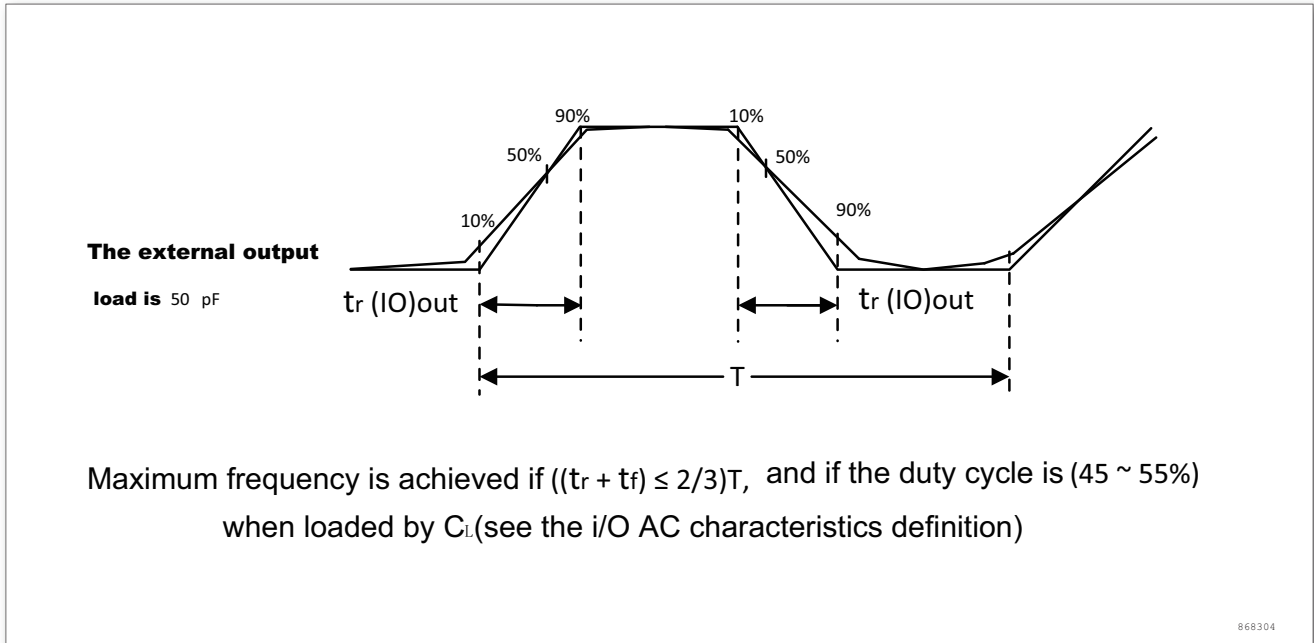

Figure 18. I/O AC characteristics
The definitions and values of the input and output AC characteristics are given in figure 18 and Table 32, respectively.
2. The maximum frequency is defined in figure 18.